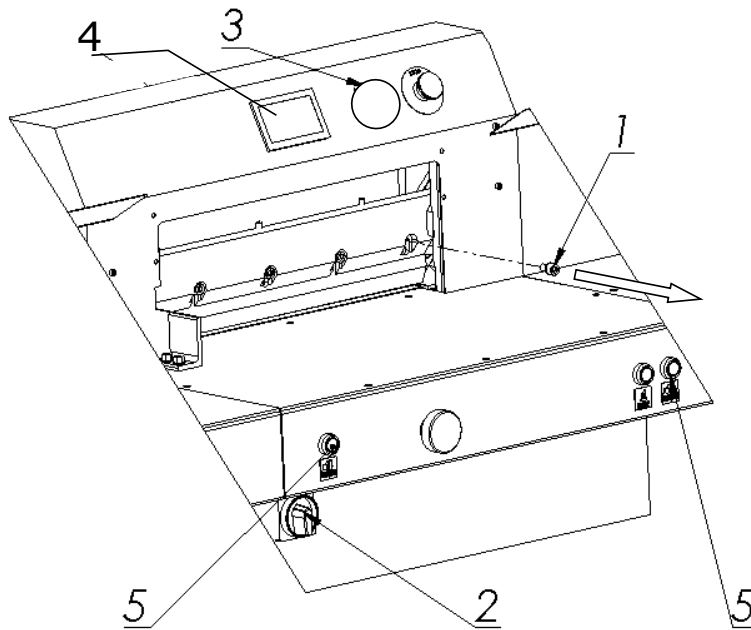

Figure.22
Unscrew and remove the first fastening screw 1 from the right side of the cutter bar (fig. 22).
8.1.1.5 Switch on the power supply of the electrical system by turning the main switch knob 2 (fig.22) to position "I"
8.1.1.7 On the program screen 4 (fig.22), deactivate the "knife change" function
8.1.2.8 Press the "Change knife" function on the programmer 4 (Fig.22)
8.1.2.20 Switch on the power supply to the control system by pressing the green push button 3 (fig.22).